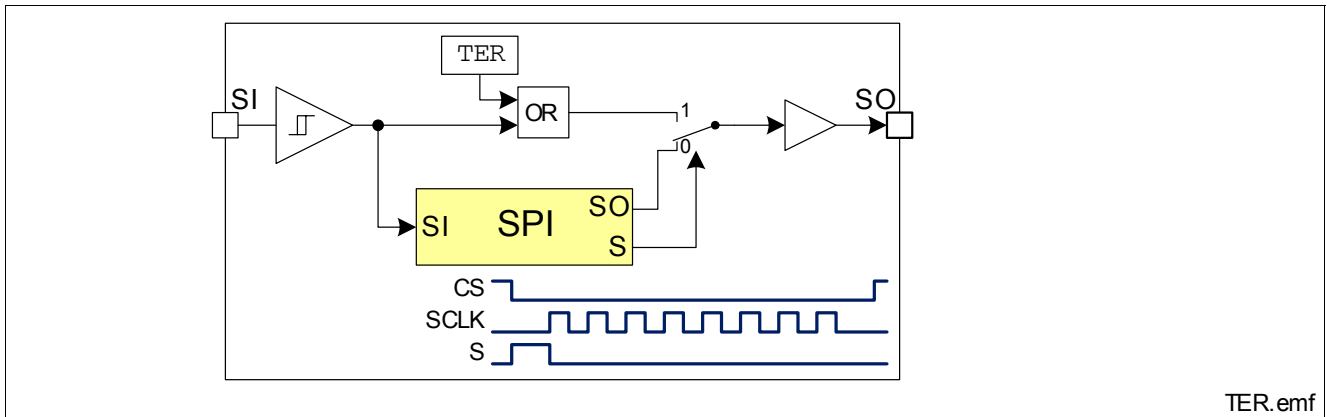

Figure 11 Transmission Error Flag on SO Line
- SO changes from high impedance state to high or low state depending on the logic OR combination between the transmission error flag ( $T_{ER}$ ) and the signal level at pin SI. As a result, even in daisy chain configuration, a high signal indicates a faulty transmission. The transmission error flag is set after any kind of reset, so a reset between two SPI commands is indicated. For details, please refer to Figure 11. This information stays available to the first rising edge of SCLK.